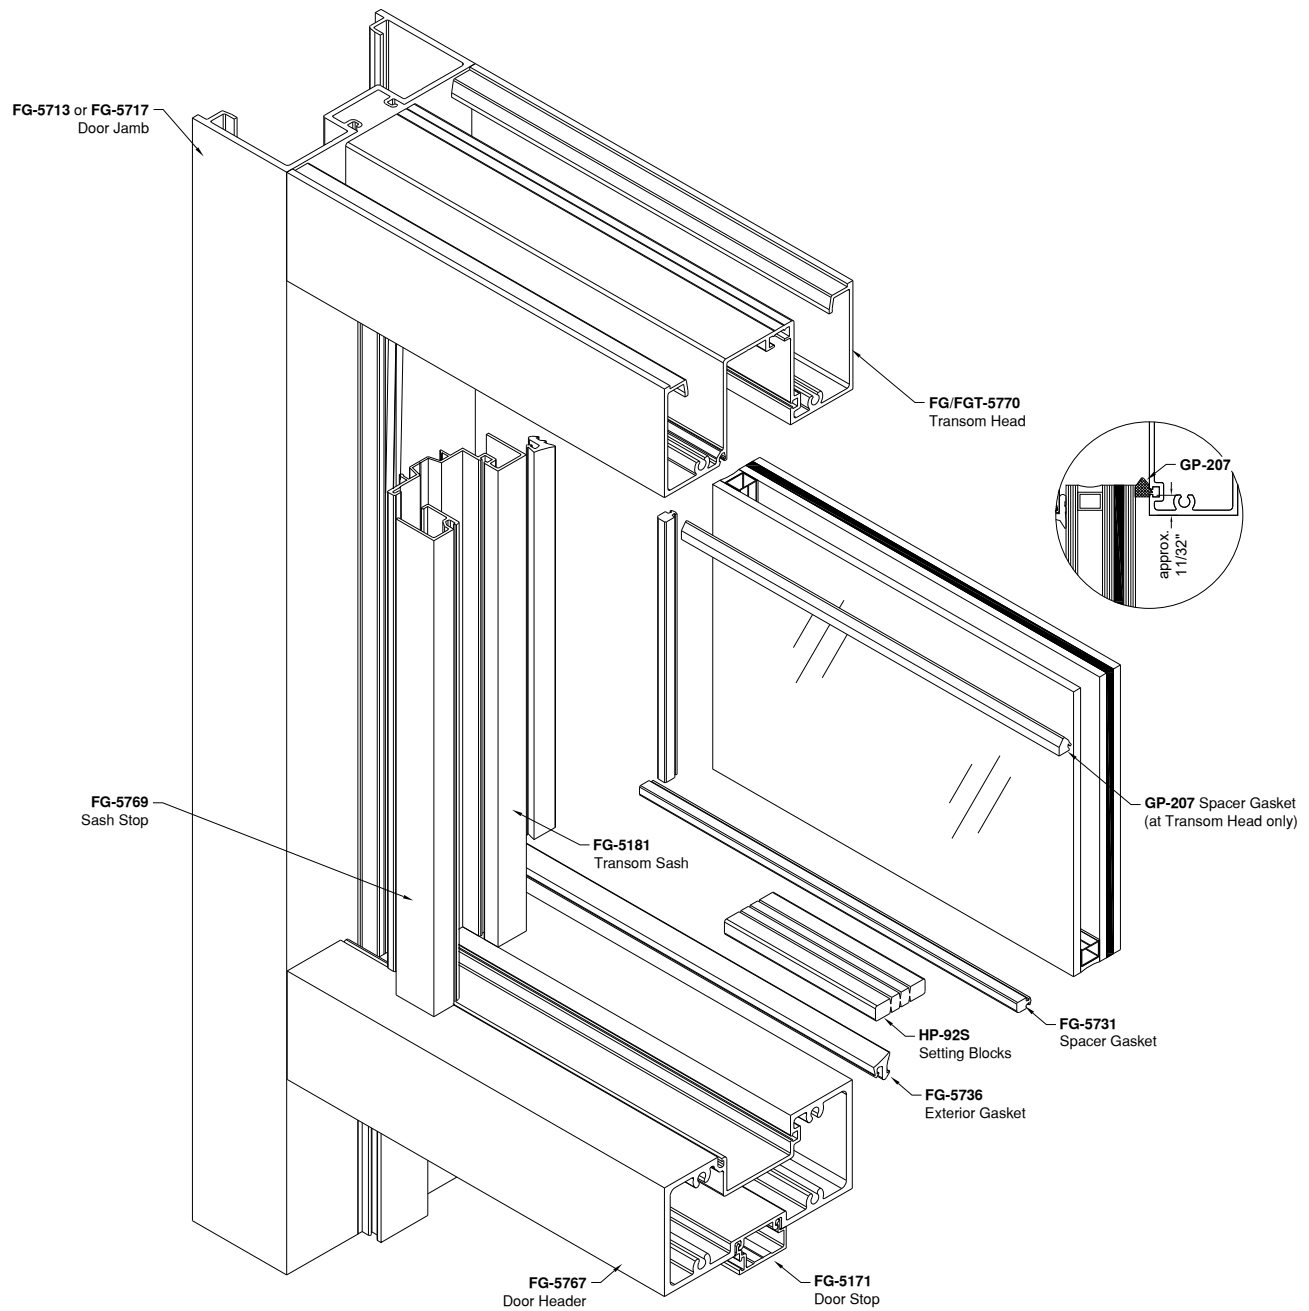

Figure 27: Level E Transom Glazing Components
- 12.5 Install **HP-92S** Setting Blocks at quarter points of each lite or as specified by glass manufacturer. A full Wet Glaze assembly is shown in *Figure 27*.